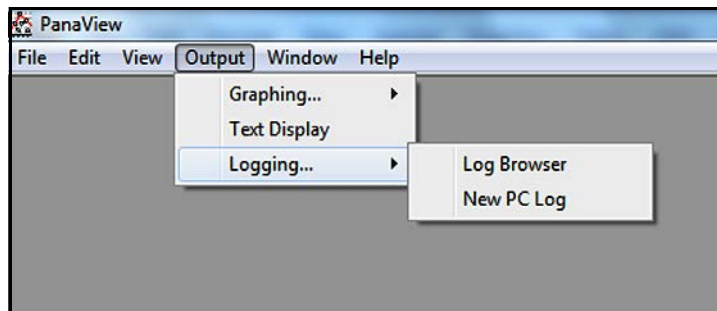

Figure 69: Selections in the Logging Option
1. Open the “Output” menu (see Figure 51 on page 39), and click on the “Logging” option to open the window shown in Figure 69 below.